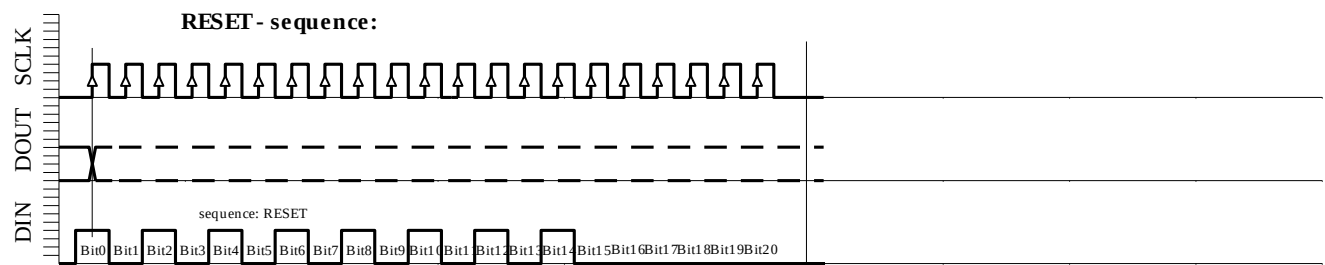

Fig. 6e: RESET sequence (21 bit)
- ✦ RESET sequence (Figure 6e)
The RESET sequence is special as the module in any state recognizes its unique pattern. By consequence, it can be used to restart if synchronization between the microcontroller and the MS5535-30C has been lost. This sequence is 21-bit long. The DOUT signal might change during that sequence (see Fig. 6e). It is recommended to send the RESET sequence before each CONVERSION sequence to avoid hanging up the protocol permanently in case of electrical interference.